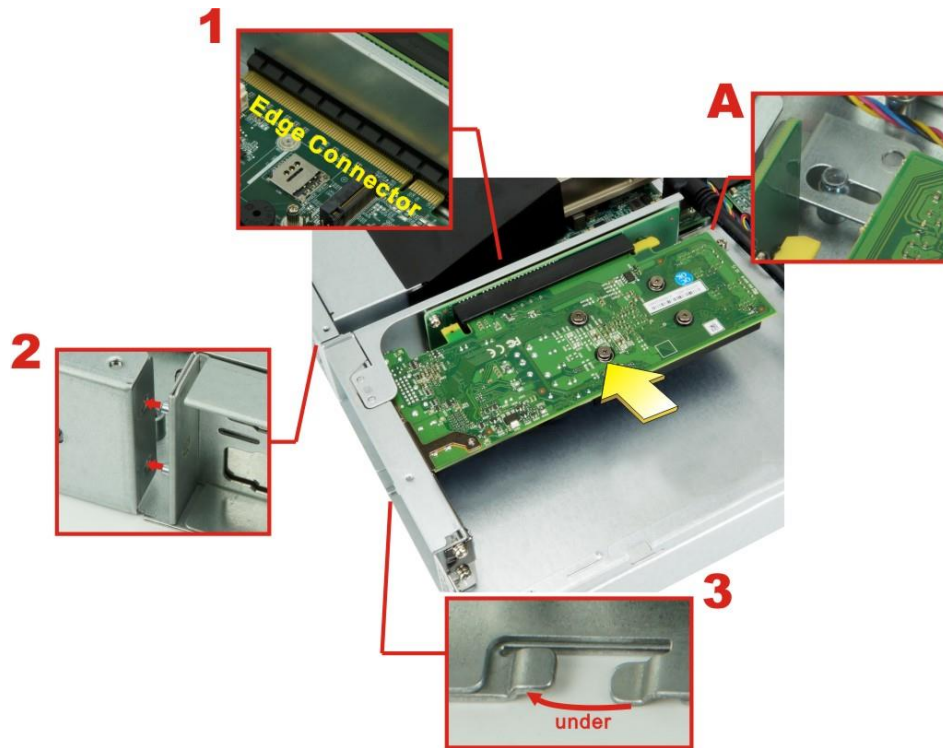

Figure 3-15: Expansion Slot Module Installation
Step 6: Place the expansion slot module back to the original position by hooking the slotted hole into the positioning stud in the chassis (**Figure 3-15 A**). Push the connector of the expansion slot module into the edge connector to install it. During installation, ensure that